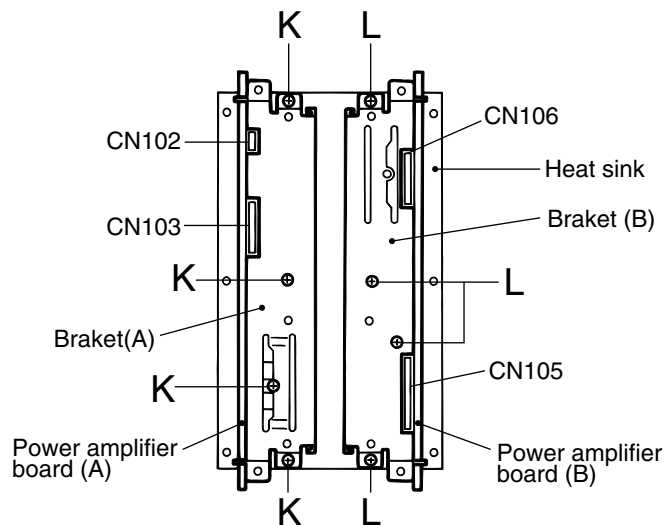

Fig.9
■ Removing the power amplifier board (A) (See Figs.9 and 10)
1. Remove the four screws K attaching the power amplifier board (A) to the heat sink.
2. Release the four joint hooks a bent and attached to the outside of the power amplifier board (A).
3. Move the power amplifier board (A) in the direction of the arrow to release joint b and remove the power amplifier board (A) from the bracket (A).
■ Removing the power amplifier board (B) (See Figs.9 and 11)
• Prior to performing the following procedure, remove the heat sink cover, the amplifier assembly, the amplifier cover, the preamplifier board, the power supply & SP terminal board, the main amplifier board and power amplifier board (A).
1. Remove the four screws L attaching the power amplifier board (B) to the heat sink.
2. Release the four joint hooks c bent and attached to the outside of the power amplifier board (B).
3. Move the power amplifier board (B) in the direction of the arrow to release joint d and remove the power amplifier board (B) from the bracket (B).